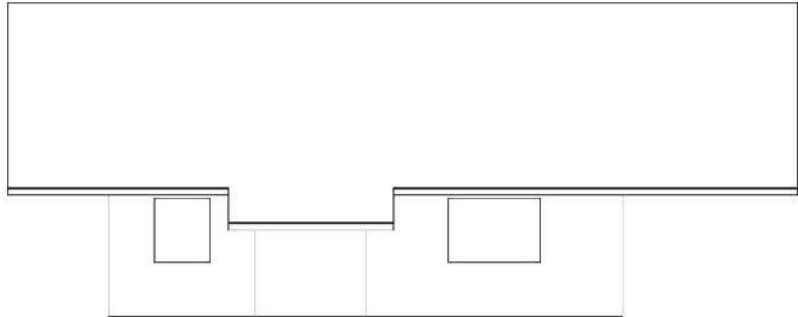

FIGURE 10.15: The completed elevation view
22. Complete the elevation view by using the TRIM command to trim the two vertical lines representing the front and rear outside walls to the roof soffit line. When finished, the elevation should resemble Figure 10.15.